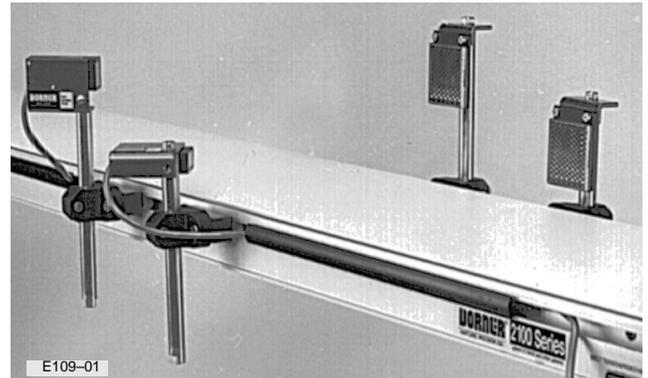

Figure 1: Photo-Eye Kit Installed (75-31)
For shipping, the Photo-Eye subassembly (E) is assembled in a horizontal position. If a vertical position is required, re-mount Bracket (677437M) vertically, as shown in Figure 1.